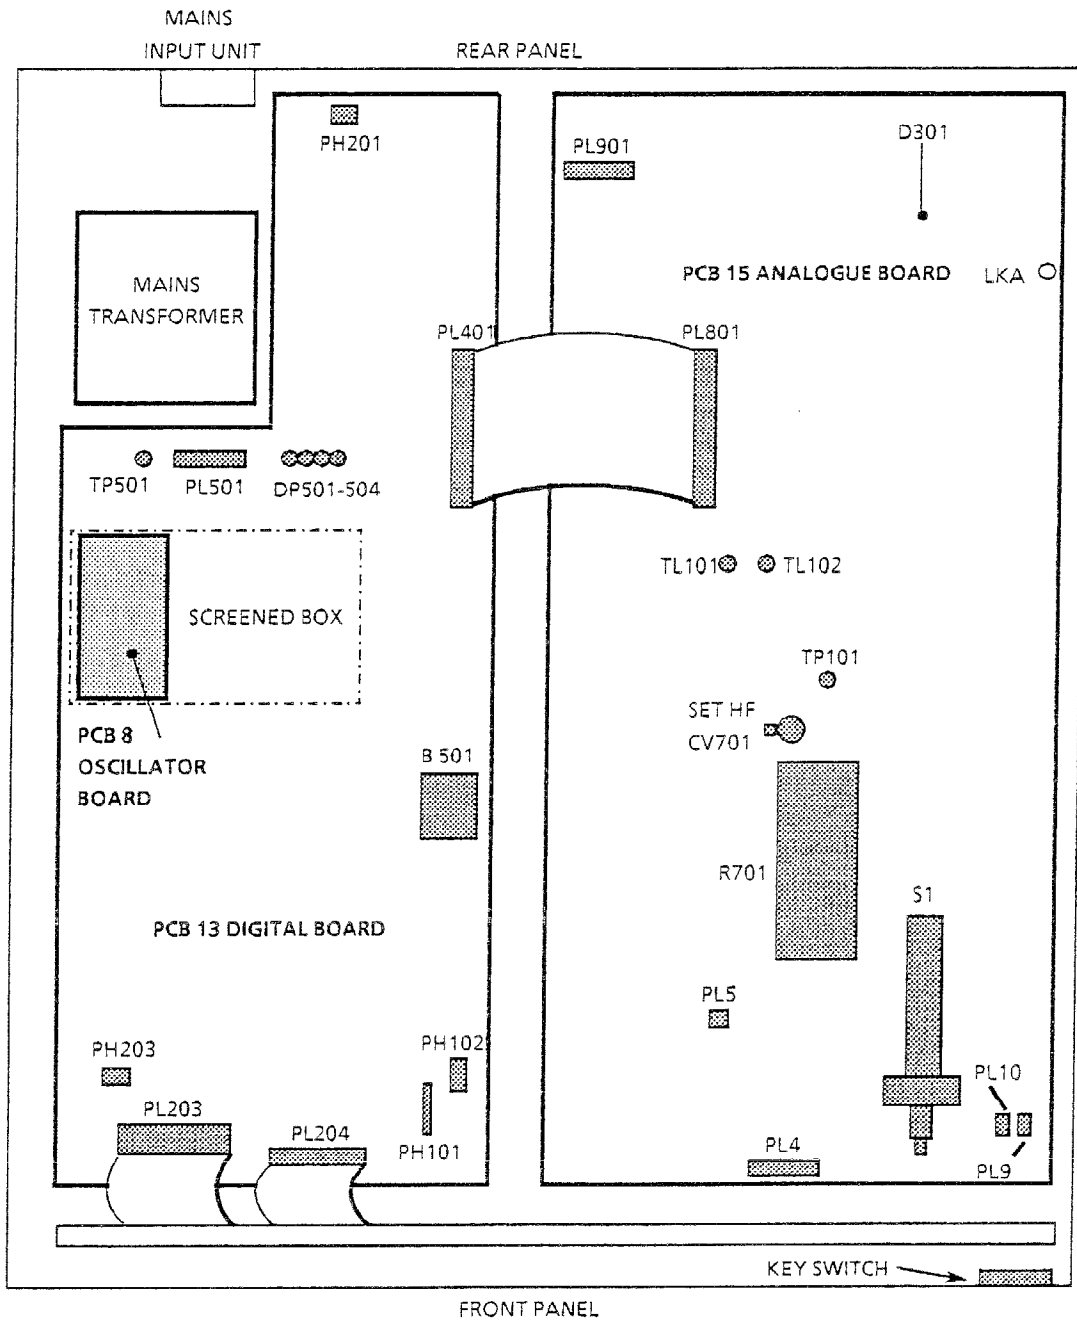
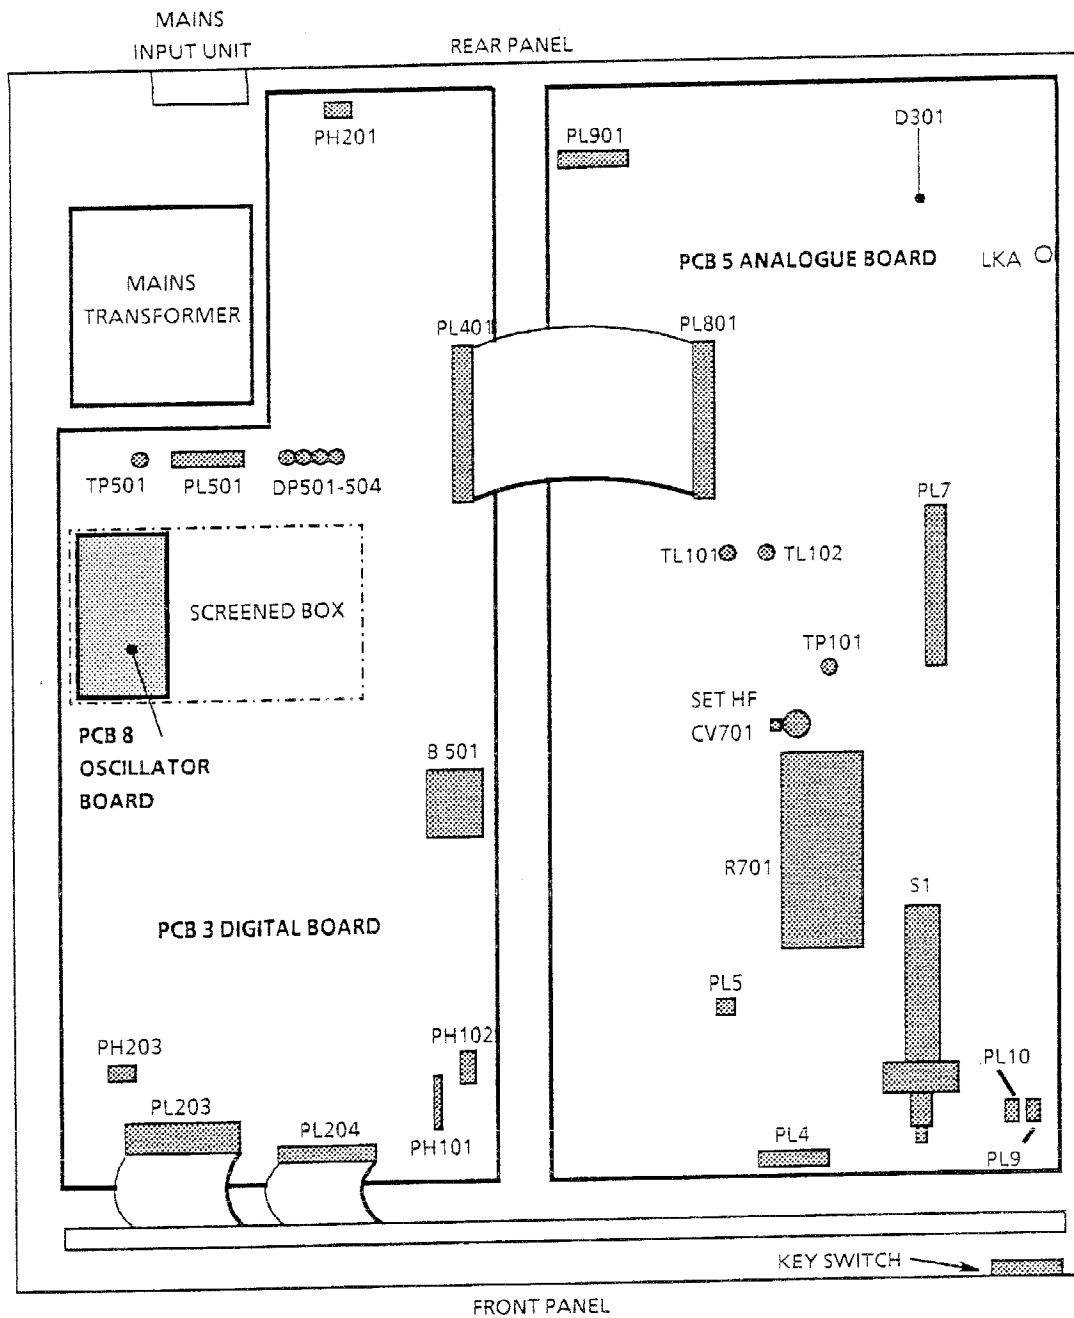

Fig 2.2 Adjustment of CV701 on PCB1 5
Fig 2.3 Adjustment of CV701 on PCB 5
- c Using an insulated trimming tool adjust CV701 on PCB 15, Fig 2.2 (refer to Fig 2.3 for location CV701 on PCB 5), for a reading of 10.0100 plus or minus 5 digits.